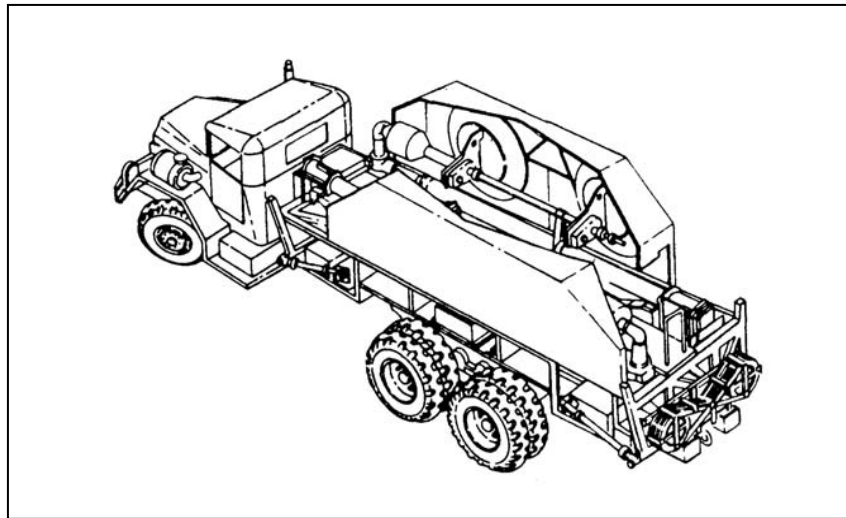

Figure 2-13. March-ordered AMG
ILLUSTRATIONS: Figure 2-13.
(1) Using a diagram, Figure 2-13, a sand table, or a simple sketch in the dirt, show the crew members how the AMG should be march-ordered.
(2) Tell the crew members what their duties are in the drill.
(3) Read the performance measures of the drill to the crew.
(4) Have crew members explain their performance measures to ensure that they understand them.